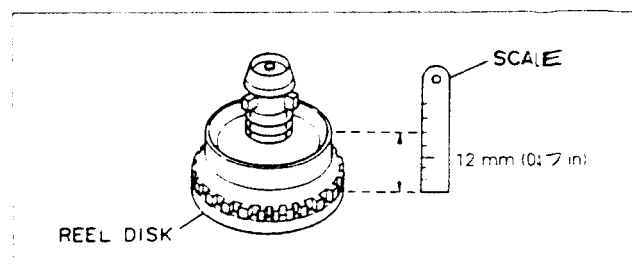

Fig. 2-4-13
- 2) Add or remove washers at the bottom of the reel disk to adjust for 12 mm (0.47 in). See Fig. 2-4-13.